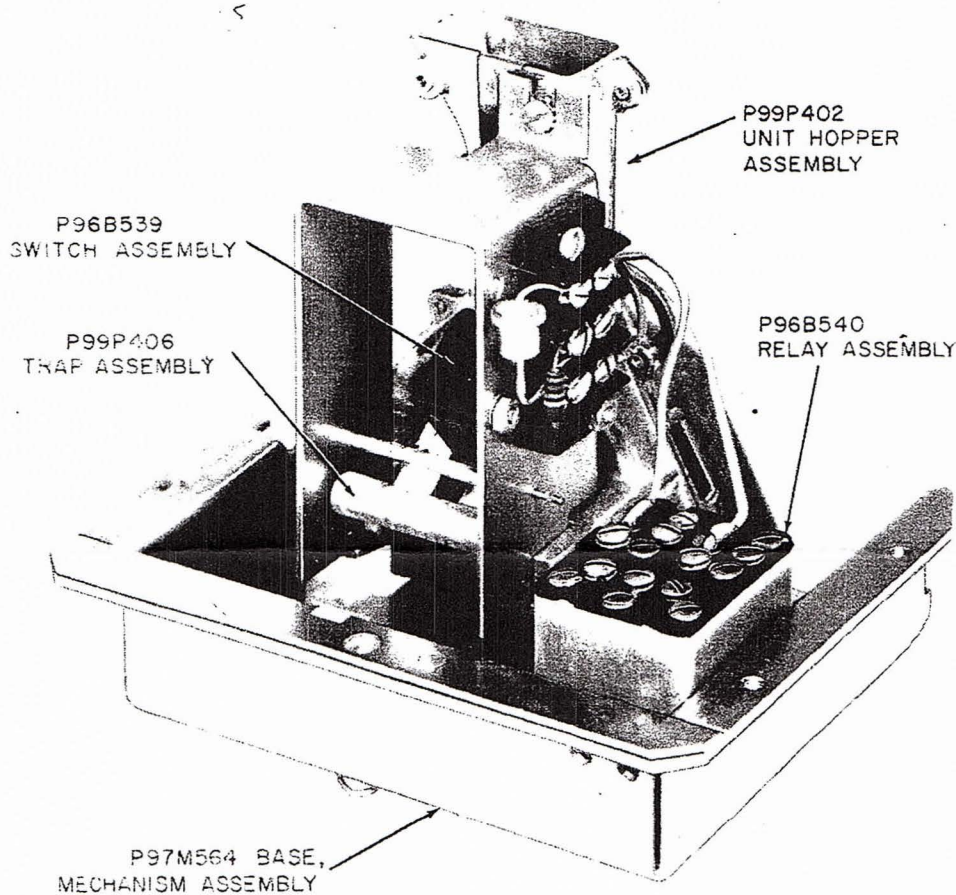

Fig. 2 - P97M563 Unit Mechanism Assembly
2.03 The encapsulated reed relay is mounted on the mechanism base (See Fig. 2) adjacent to the coin hopper and switch assembly.
5.01 Trap (see Fig. 2) shall restore freely to normal position when released slowly from fully open position.